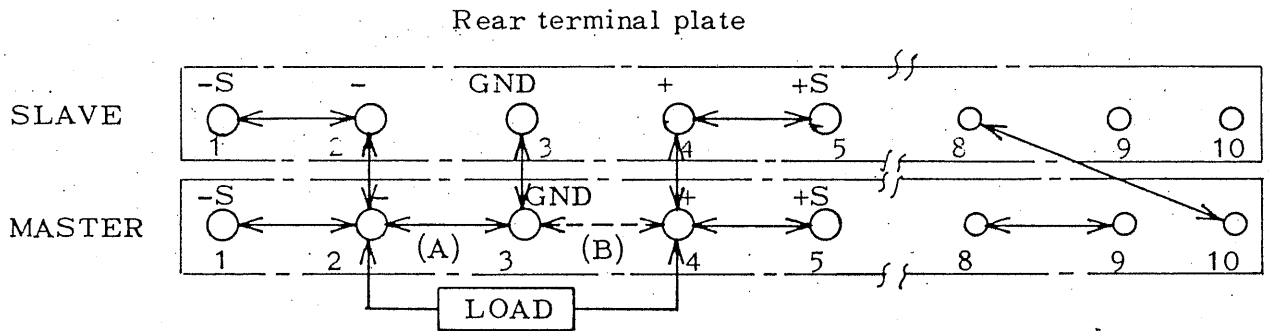

Fig. 3-7 One-control parallel operation master, slave, load
- 1) Connect the terminals on the rear panel of the master to the slave and the load as shown in Fig. 3-7.